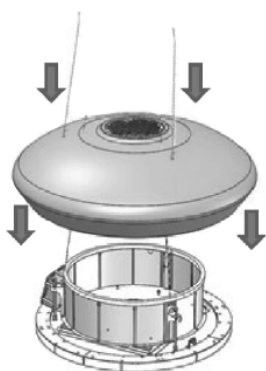

FIG.3
- › Place the ceramic cover over the extraction element and insert the steel cables into the three holes in the ceramic (Fig.3).